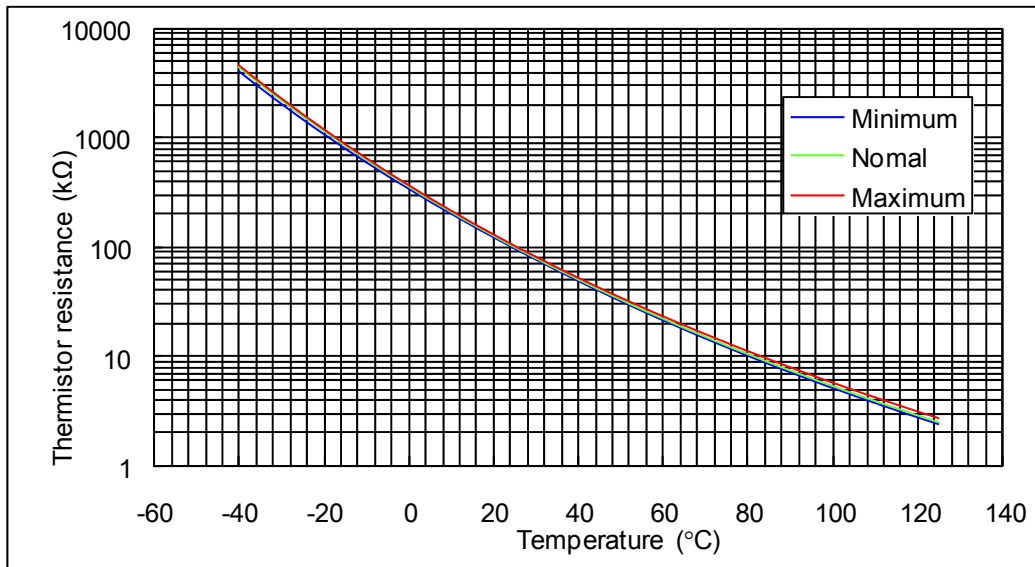
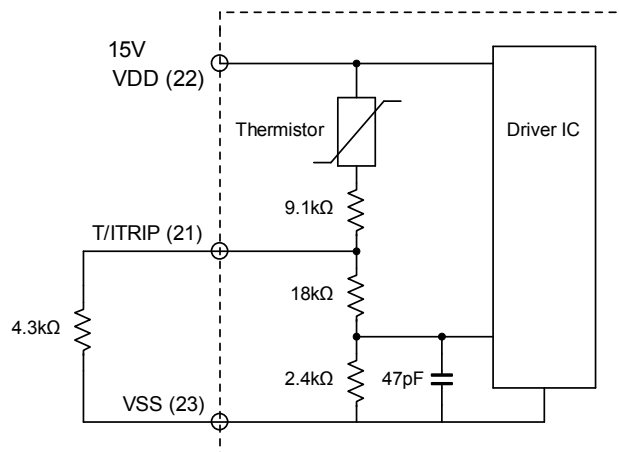

Fig. 10 Variation of thermistor resistance with temperature
Fig. 12 Sample application circuit for temperature monitoring
7. Inside the H-IC, a thermistor used as the temperature monitor is connected between VDD terminal and T/ITRIP terminal, therefore, an external pull down resistor connected between the T/ITRIP terminal and VSS terminal should be used. The temperature monitor example application is as follows, please refer the Fig.10, Fig.11, and Fig.12 below.